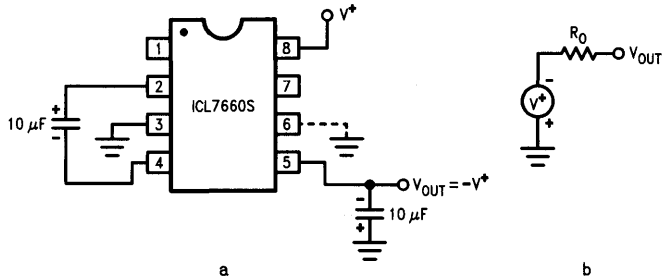

Figure 5: Simple Negative Converter and its Output Equivalent
The majority of applications will undoubtedly utilize the ICL7660S for generation of negative supply voltages. Figure 5 shows typical connections to provide a negative supply where a positive supply of +1.5V to +12V is available. Keep in mind that pin 6 (LV) is tied to the supply negative (GND) for supply voltages below 3.5 volts.